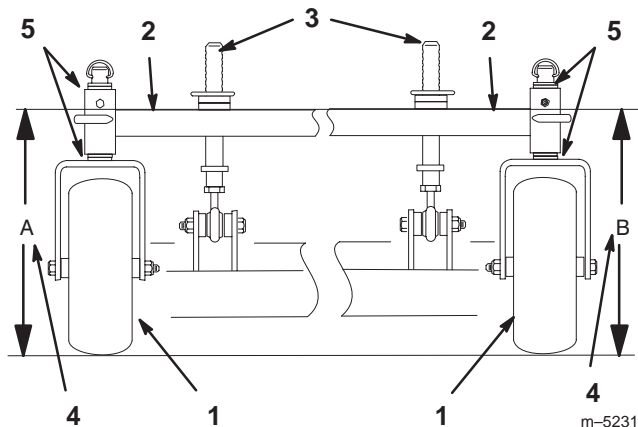

Figure 48
3. Measure carrier frame height at location "A" (Fig. 48).
4. Measure carrier frame height at location "B" (Fig. 48).